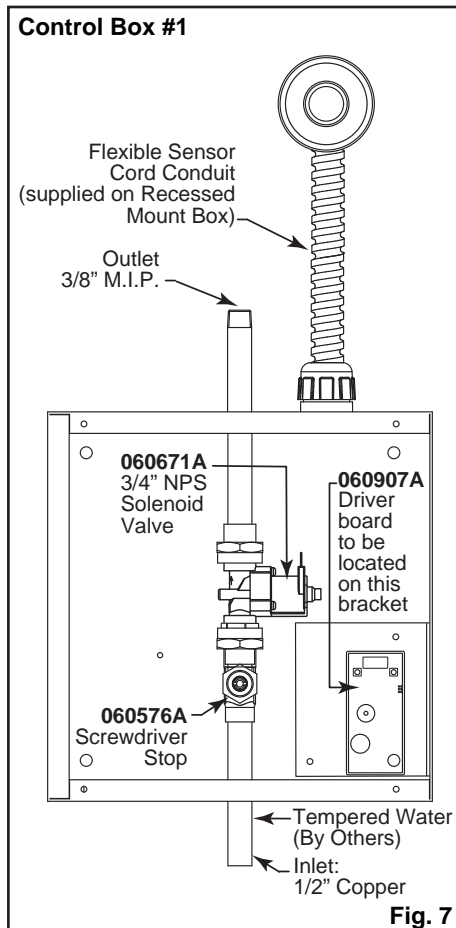
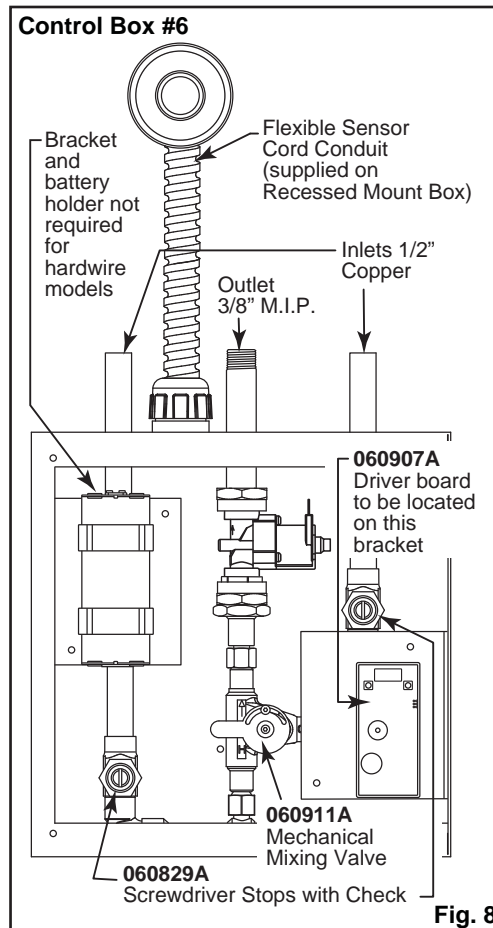
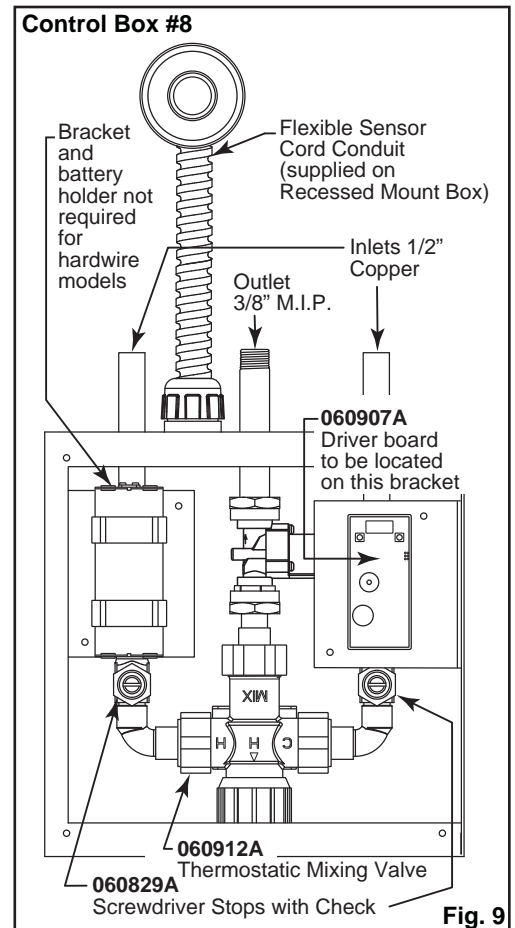

Fig. 7
Fig. 8
Fig. 9
Install sink and connect drainage to rough in. See applicable Fig. 7, Fig. 8 or Fig. 9. Please note that the connection tube and fittings are supplied by the installer to connect the 3/8" MIP at the box outlet and compression joint for 3/8" O.D. Soft copper tube at the spout. Connect water supply through to spout. Assure supply lines are completely flushed and free of debris.
**4C** If **Mechanical Mixing Valve (060911A) (Fig. 8)** Adjust setting to the desired temperature and lock in place by tightening the vandal resistant screw.
If **Thermostatic Mixing Valve (Fig. 9)** Adjust setting of the Thermostatic Mixing Valve to obtain the desired temperature (counter-clockwise, to increase temperature - clockwise to decrease temperature) (Fig. 11).